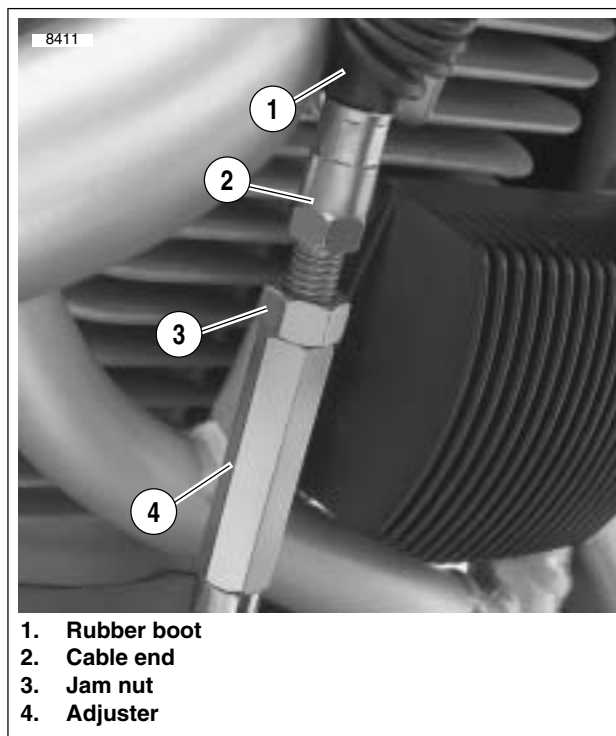

Figure 1-23. Clutch Cable Adjuster Mechanism
2. See Figure 1-23. Slide rubber boot (1) upward to expose adjuster mechanism. Loosen jam nut (3) from adjuster (4). Turn adjuster to shorten cable housing until there is a large amount of free play at clutch hand lever.
- b. See Figure 1-23. Set free play by turning adjuster (4).
- c. Tighten jam nut (3) against adjuster (4).
- d. Slide boot (1) over cable adjuster mechanism.